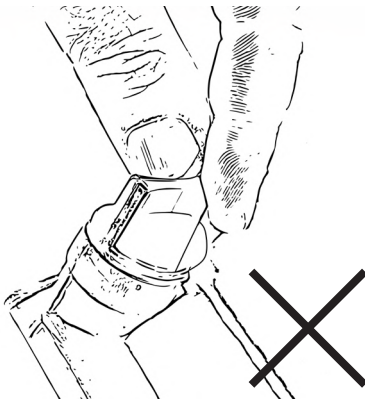

Figure 13
Never turn the oil filler plug with connected dipstick into the thread when reading the oil level. This leads to an incorrect measurement result, Fig. 13.
- Immerse the dipstick completely in the oil. Never turn the dipstick into the thread, Fig. 13.